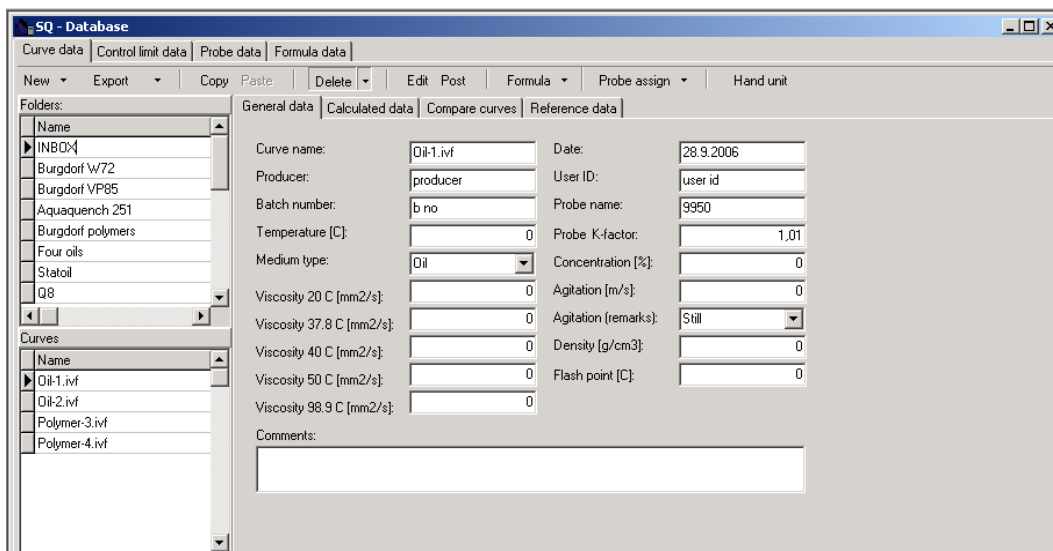

Fig. 3.2 General data that can be entered by the user for each cooling curve.
- **General data**, which must be entered by the user, except for the default values, which come with the curves. See Figure 3.2.